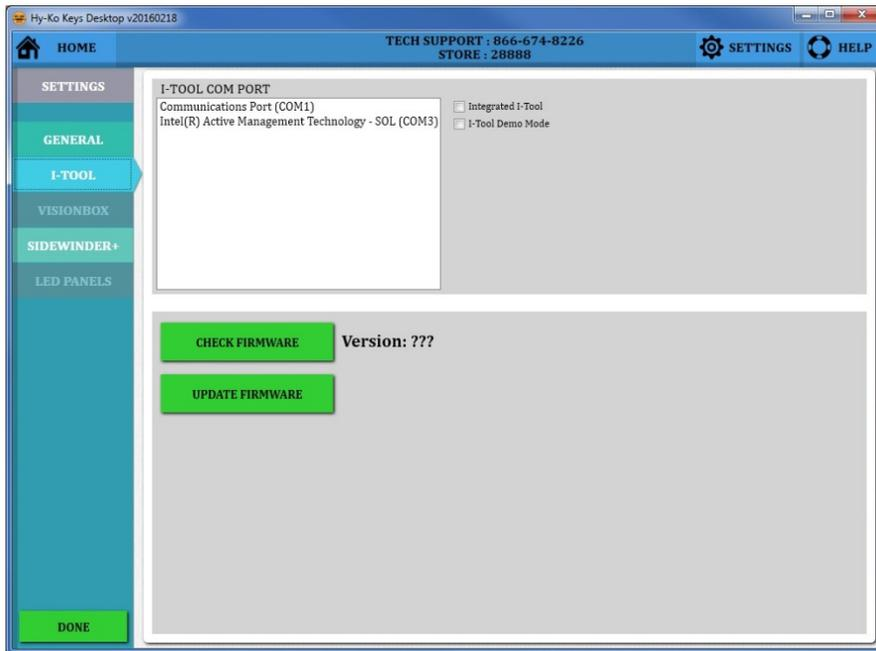

fig. 118
- The **'I-TOOL'** tab allows you to check the firmware of the I-Tool as well as change the communication port (see fig. 118).